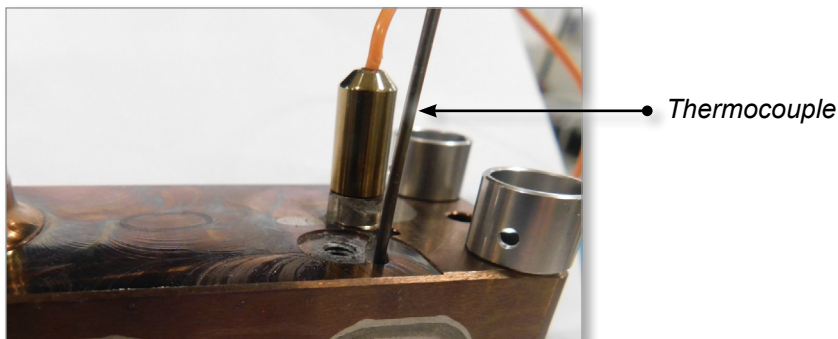

Figure 5-88 Insert thermocouple tip
1. Insert the thermocouple tip into the thermocouple hole. See Figure 5-88. Make sure that the thermocouple touches the bottom of the hole.